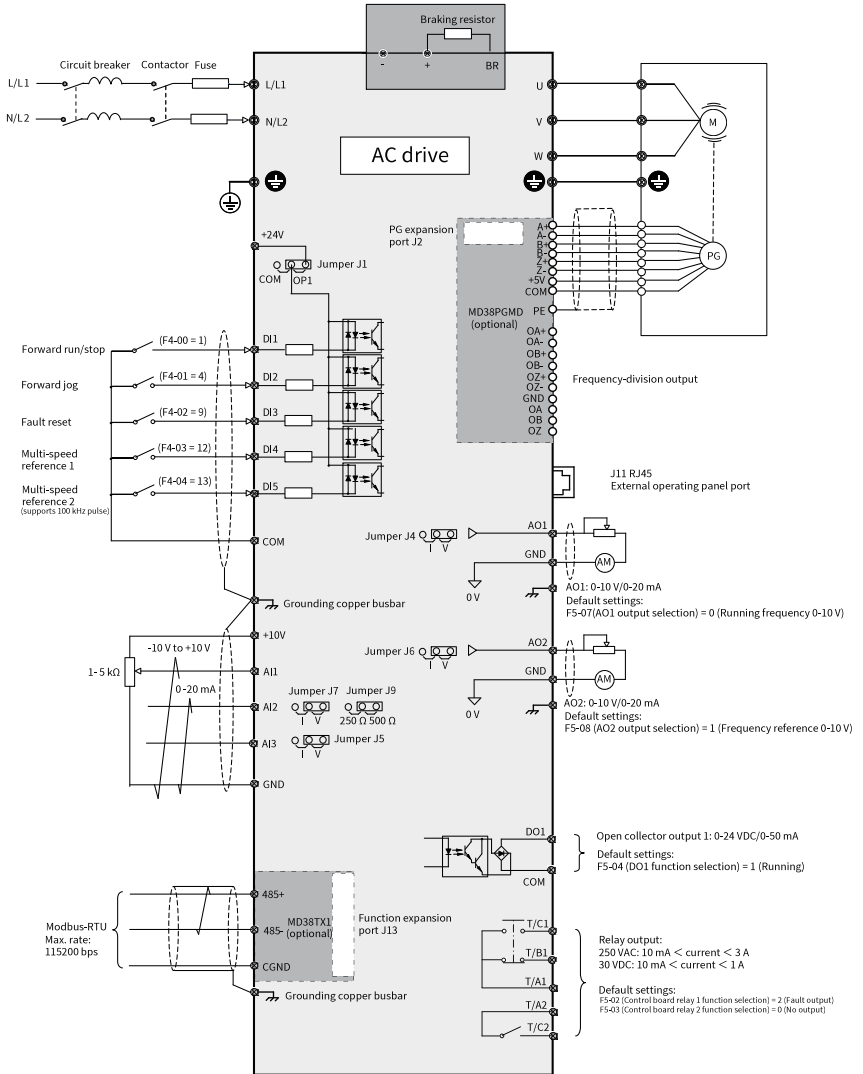
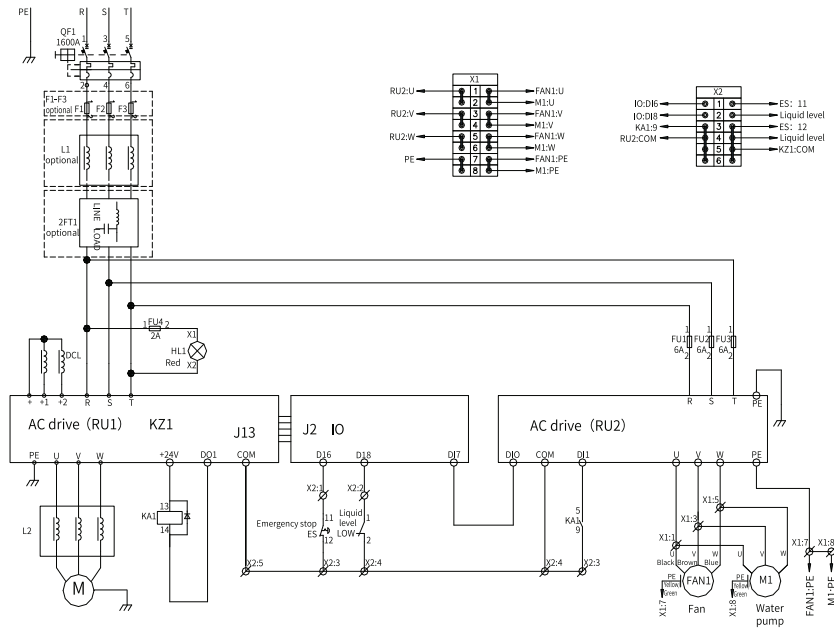

Figure 3-3 Standard wiring (single-phase 200 V to 240 V)
Figure 3-4 Electrical connection in the cabinet (T13 models)
*"Figure 3-3 " on page 26* shows a typical wiring method.
"Figure 3-3 " on page 26 shows the standard wiring of the cabinet, and "Figure 3-4 " on page 27 shows the electrical connection in the cabinet.